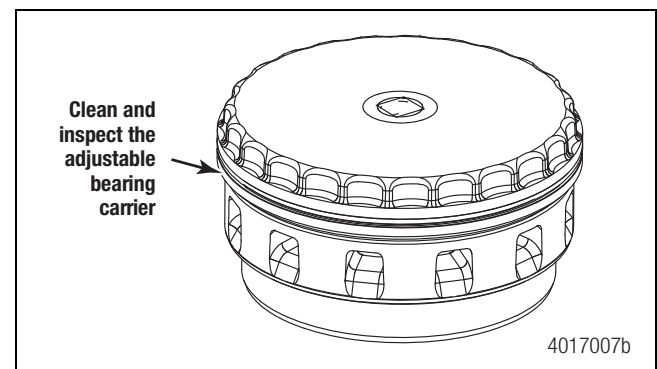
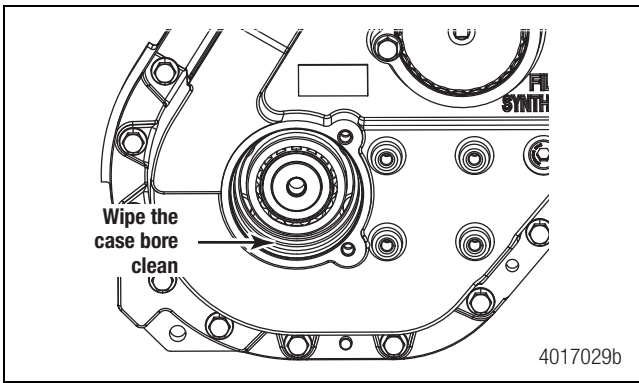

Figure 10
Figure 11
- With a clean cloth, clean and inspect the case bore and adjustable bearing carrier for any damage from corrosion or debris. Figure 10 and Figure 11.